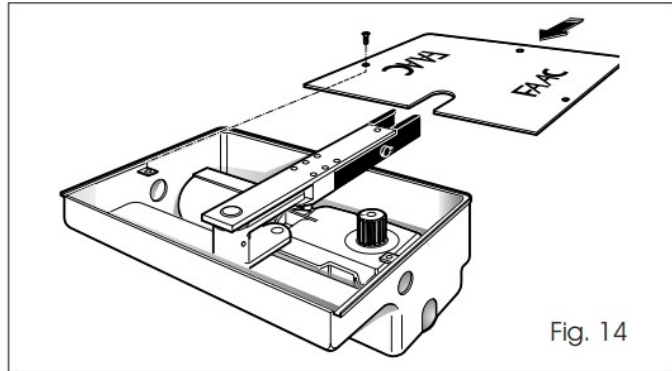

Fig. 14
6. Fasten the box cover using the supplied screws (Fig. 14) .